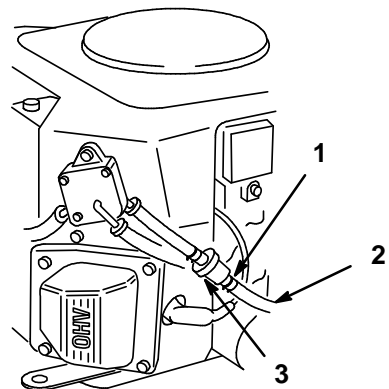

Figure 30
4. Squeeze the ends of the hose clamp together and slide it up the fuel line toward the fuel tank (Fig. 30).
5. Pull the fuel line off the filter (Fig. 30). Open fuel shut-off valve and allow gasoline to drain into an approved gas can.